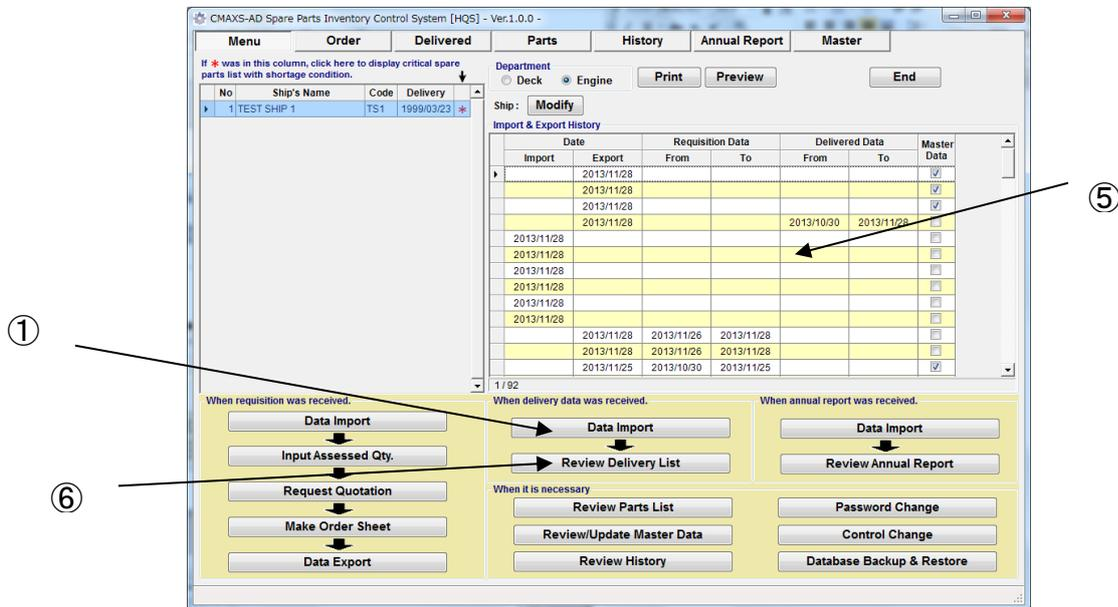

Fig.9-1 Menu Screen
On the “Menu Screen”(Fig.9-1), select [Data Import].
- (3) Confirm check mark is at left side of Delivery Data.
- (4) Select [OK] at Data Import dialog.
- (5) Import history is recorded on "Import & Export History".
- (6) On the “Menu Screen”(Fig.9-1), select [Review Delivery List].